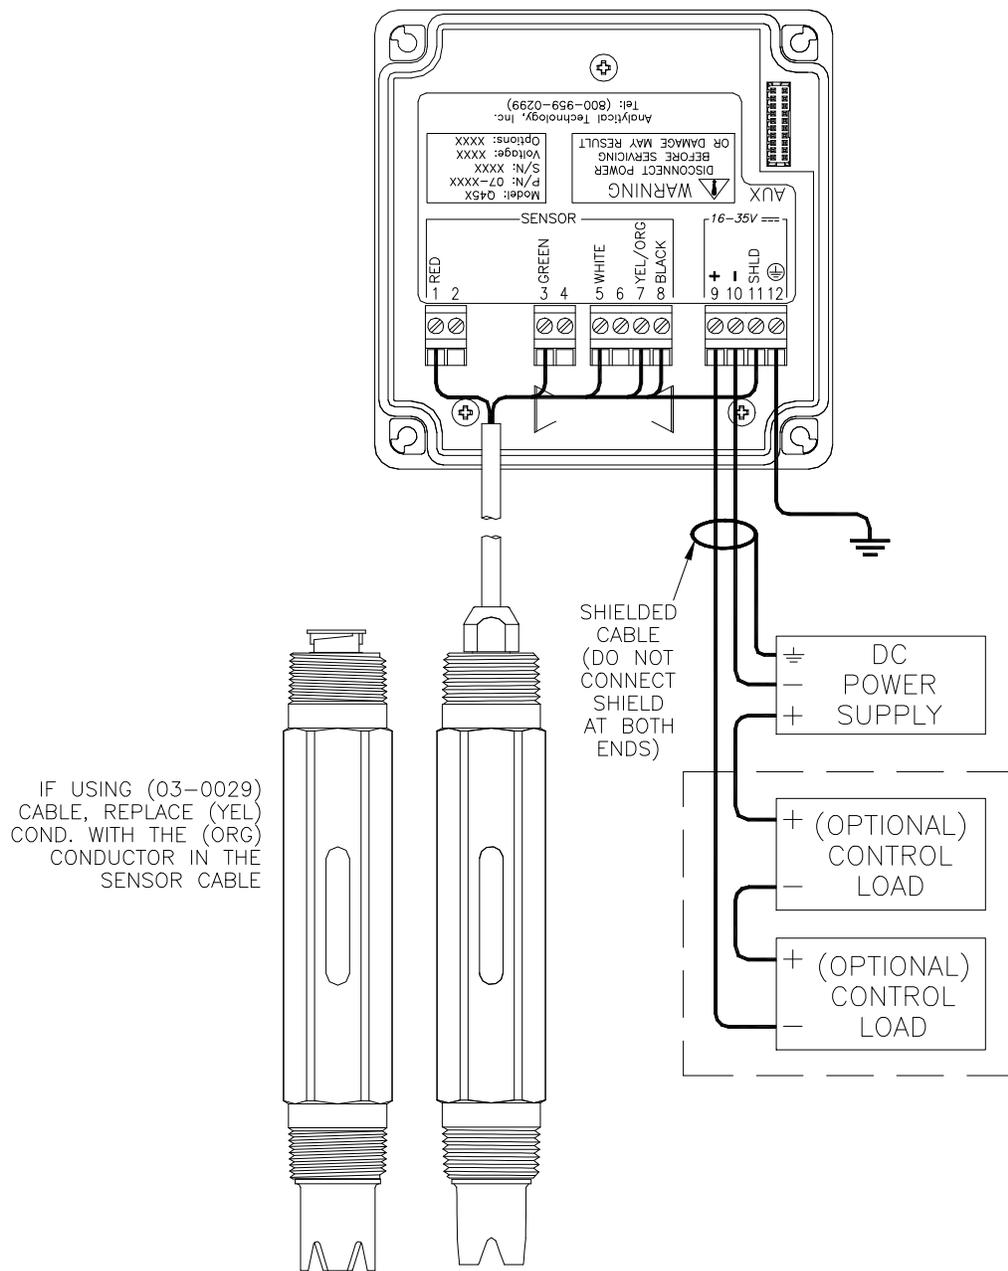

Figure 19 - DC/Loop Power Wiring Diagram
1. Use wiring practices that conform to all national, state and local electrical codes. For proper safety as well as stable measuring performance, it is important that the earth ground connection be made to a solid ground point from terminal 12 (Figure 19). The AC power supply contains a single 100mA (115V) or 50mA (230V) slo-blo fuse. The DC powered version contains a 250 mA fuse. The fuse **F1** is located adjacent to **TB5** and is easily replaceable.
In the two-wire configuration, a separate DC power supply must be used to power the instrument. The exact connection of this power supply is dependent on the control system into which the instrument will connect. See Figure 19 for further details. Any twisted pair shielded cable can be used for connection of the instrument to the power supply. Route signal cable away from AC power lines, adjustable frequency drives, motors, or other noisy electrical signal lines. Do not run sensor or signal cables in conduit that contains AC power lines or motor leads.